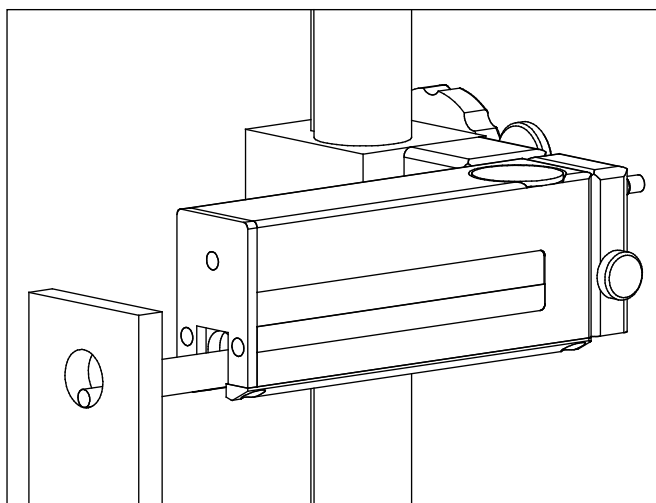

Fig. 8
For very narrow bores, it might be necessary to remove the probe protection (1) and switch off probe lifting (see Fig. 8).